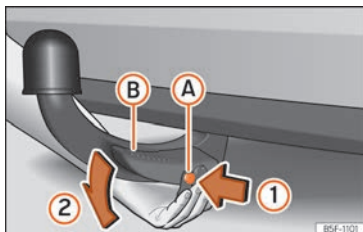

Fig. 258 Removing the tow hook
- Press the release bolt (A) in the direction of arrow (1), and at the same time press lever (B) as far as it will go in the direction of arrow (2) » Fig. 258.